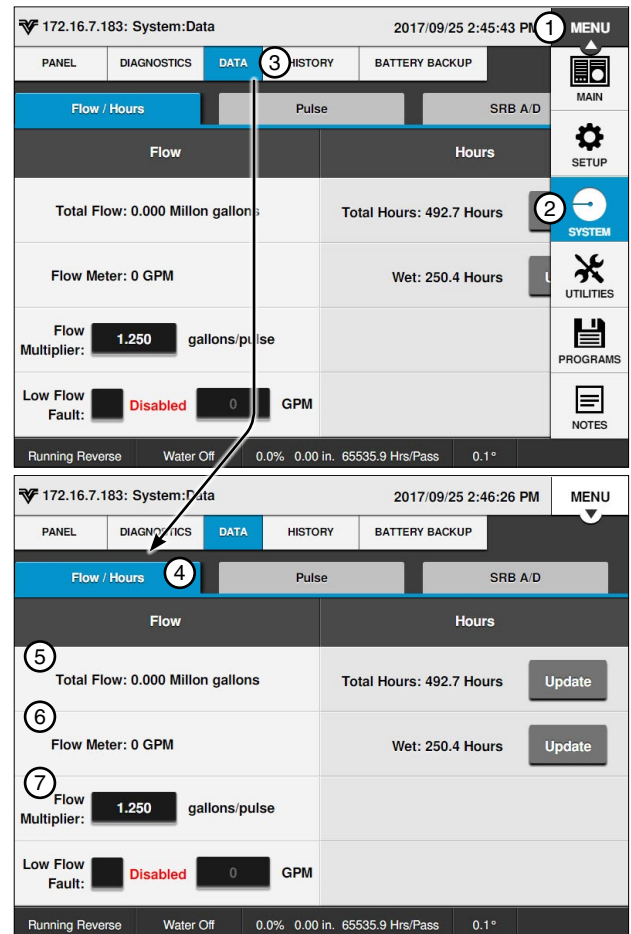

Figure 57-1 1. Menu 5. Total Flow
The Data option is used to review the machine's Flow/Hours, Pulse, and SRB A/D information collected by the control panel. Push Menu, System, and Data. Refer to Figure 57-1.
Push **Menu**, **System**, **Data**, and **Flow/Hours** to display the Flow/Hours screen. Refer to Figure 57-1.
1. Select the **Flow Multiplier** field. Refer to Figure 57-1.